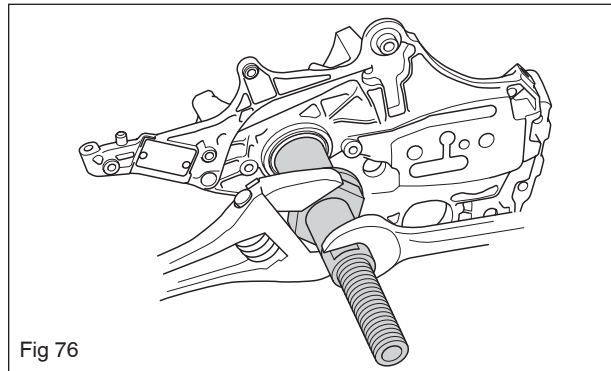

Fig 76
1. Use the 502 50 30-23 tool. Use the back end of the sleeve and slot the crankshaft in place into the clutch side of the crankcase half. See figure 76. Tighten until the crankshaft collar comes into contact with the bearing.